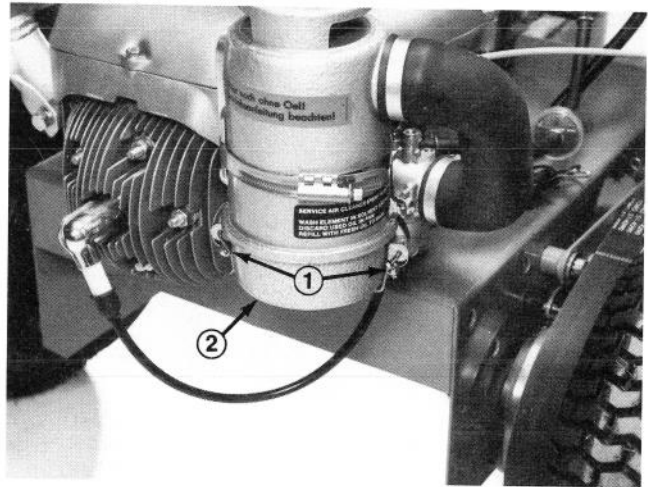

Figure 14
1. Release latches securing oil pan to air cleaner housing (Fig. 14). Remove oil pan and baffle.